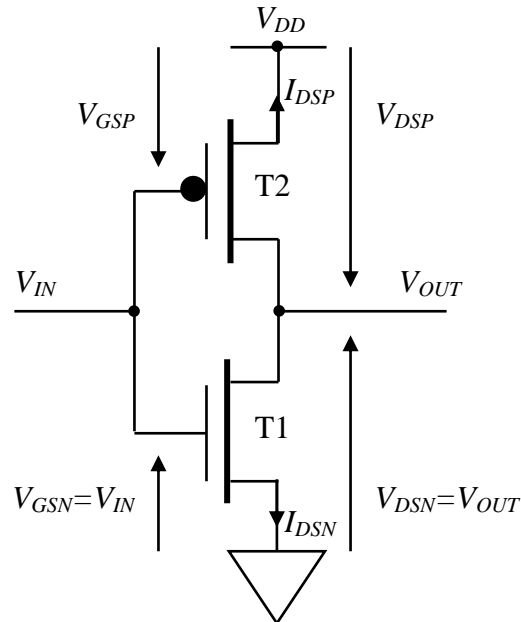

Figure 4: Inverter
4. a. For the circuit shown in **Figure 4**: